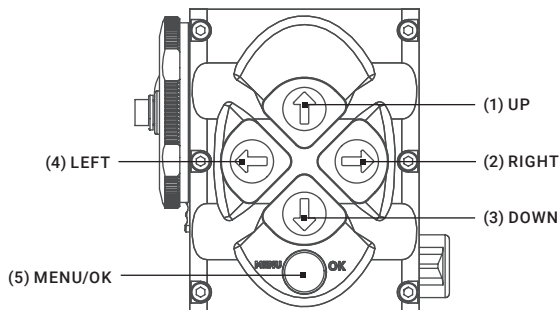
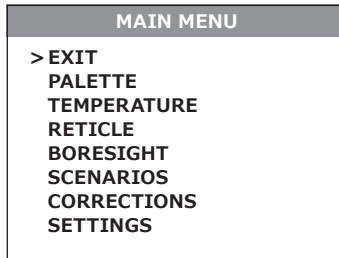

FIGURE 2-7. MAIN MENU NAVIGATION BUTTONS
FIGURE 2-8. MAIN MENU
To display the MAIN MENU, push and hold down the MENU button (5) on the control panel (Figure 2-7). Push and hold down the MENU button again to exit the menu.
Once the MAIN MENU is displayed (Figure 2-8), use the UP and DOWN buttons (Figure 2-7) to navigate through the items on the menu.